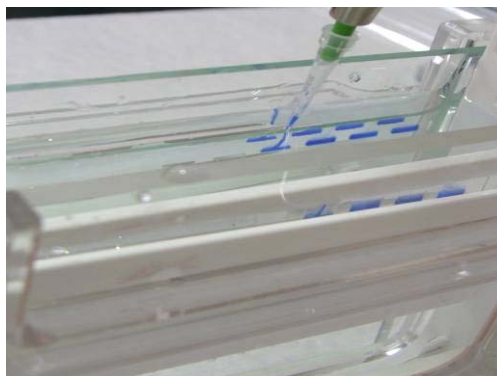

Figure 12. Load your samples.
- Before loading samples onto the gel, thoroughly flush all the wells of the gel by gently pipetting running buffer up and down using a 100  $\mu$ l pipette. Briefly spin down all samples before applying onto the gel. Apply 10  $\mu$ l of protein samples into each well (*fig. 12*).